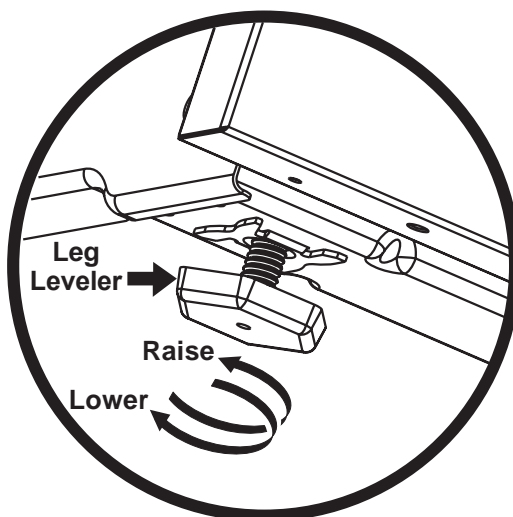

Figure 11
2. Place a level on the rack (see Figure 15). Take 2 readings with the level placed diagonally in one direction and then the other. Level the range, if necessary, by adjusting the 4 leg levelers with a wrench (see Figure 11).